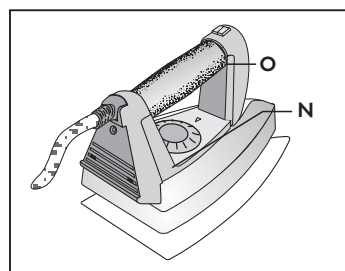

Fig. 23
- Select the appropriate ironing temperature using the iron temperature knob (N) **(Fig. 23)**
- Push the steam on/off button (O) on the handle of the iron (14) to activate or deactivate the steam function. **(Fig. 23)**